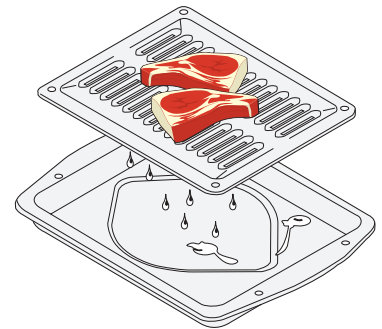

Fig.1 (some models)
**Quick Convection Cooking System** uses a fan to circulate the oven's heat uniformly and continuously around the oven. This improved heat distribution allows for fast, even cooking and browning results. It also gives better baking results when using two racks at the same time (See Fig. 1).
5. Place the insert on the broil pan (if equipped), then place the food on the insert (if equipped; See Fig. 1).